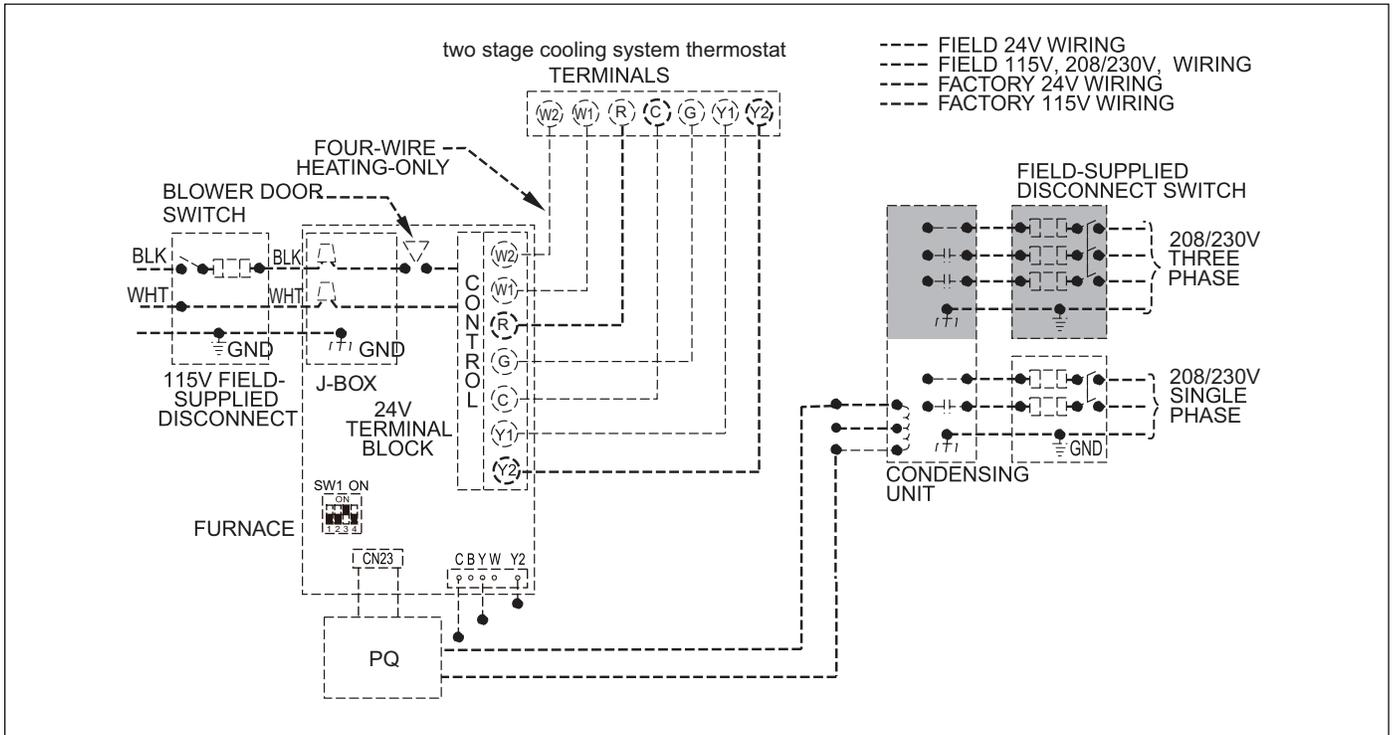
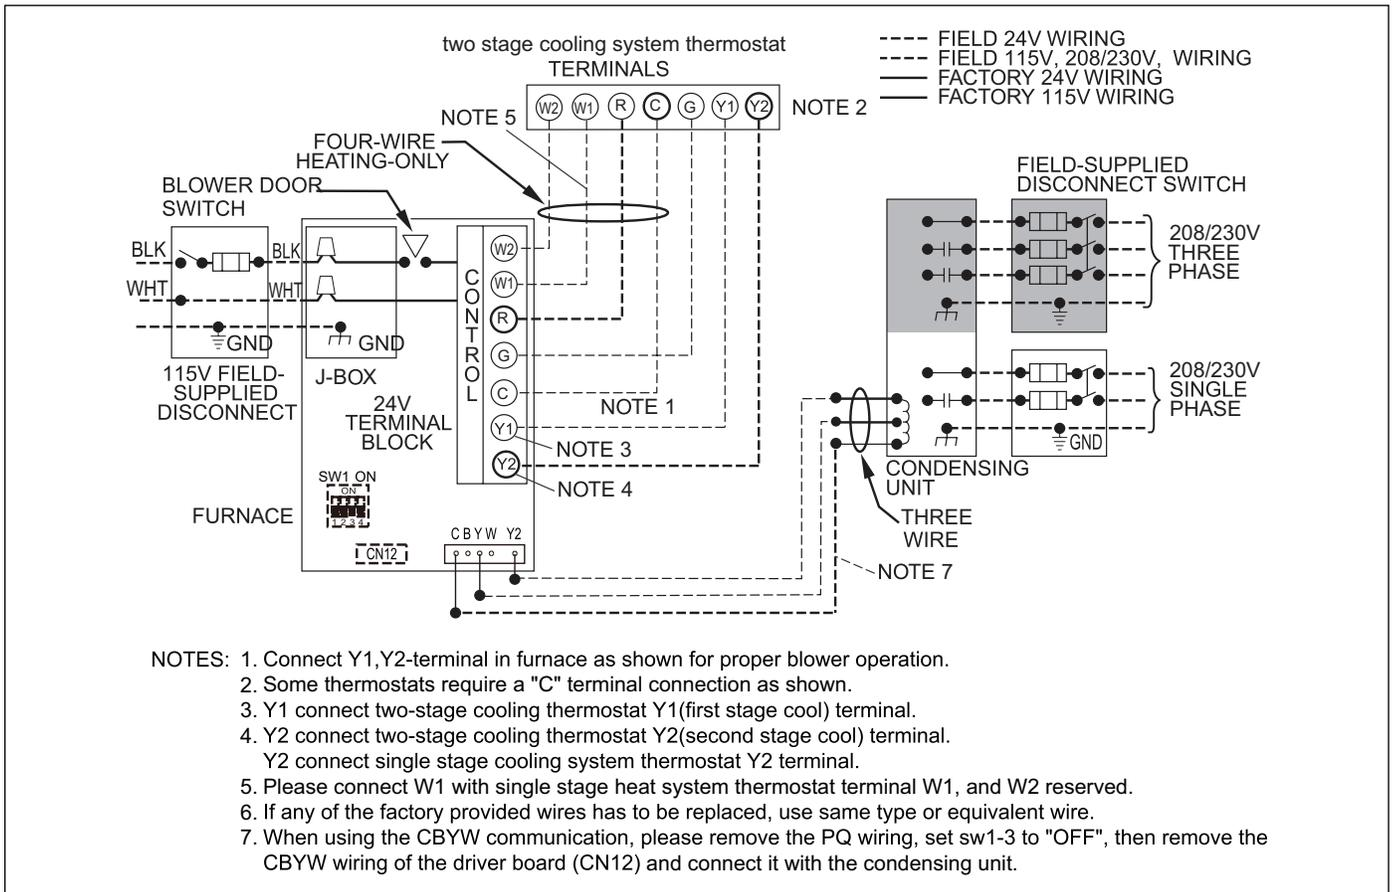

Figure 49 Low Voltage Wiring Diagram - Communicating Mode (default)
Figure 50 Low Voltage Wiring Diagram - Non-communicating Mode
12. Complete electrical box wiring and installation. Connect line voltage leads as shown in Figure 49 or Figure 50. Use best practices (NEC in U.S. and CSA C22.1 in Canada) for wire bushings, strain relief, etc.
5. Connect line voltage leads as shown in Figure 49.
1. Maintain 115V wiring and ground. Improper polarity will result in rapid flashing LED and no furnace operation (See Figure 49 and Figure 50).
2. Make thermostat wire connections at the 24V terminal block on the furnace control. Failure to make proper connections will result in improper operation (See Figure 49 and Figure 50).